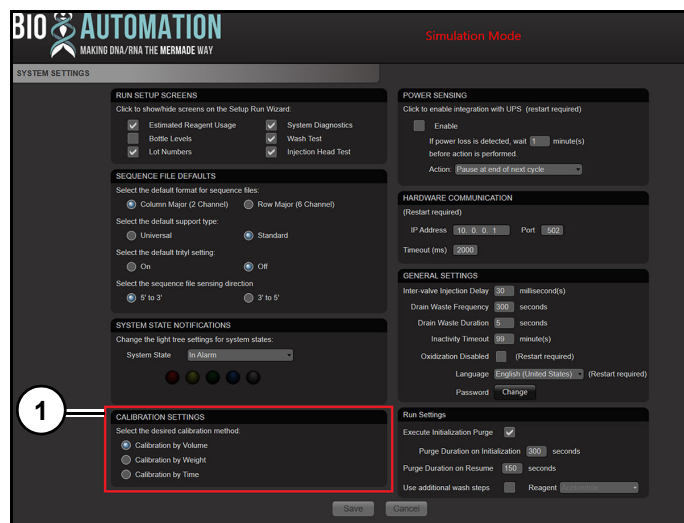

Figure 13
3. Select desired calibration method (1) (Figure 13).